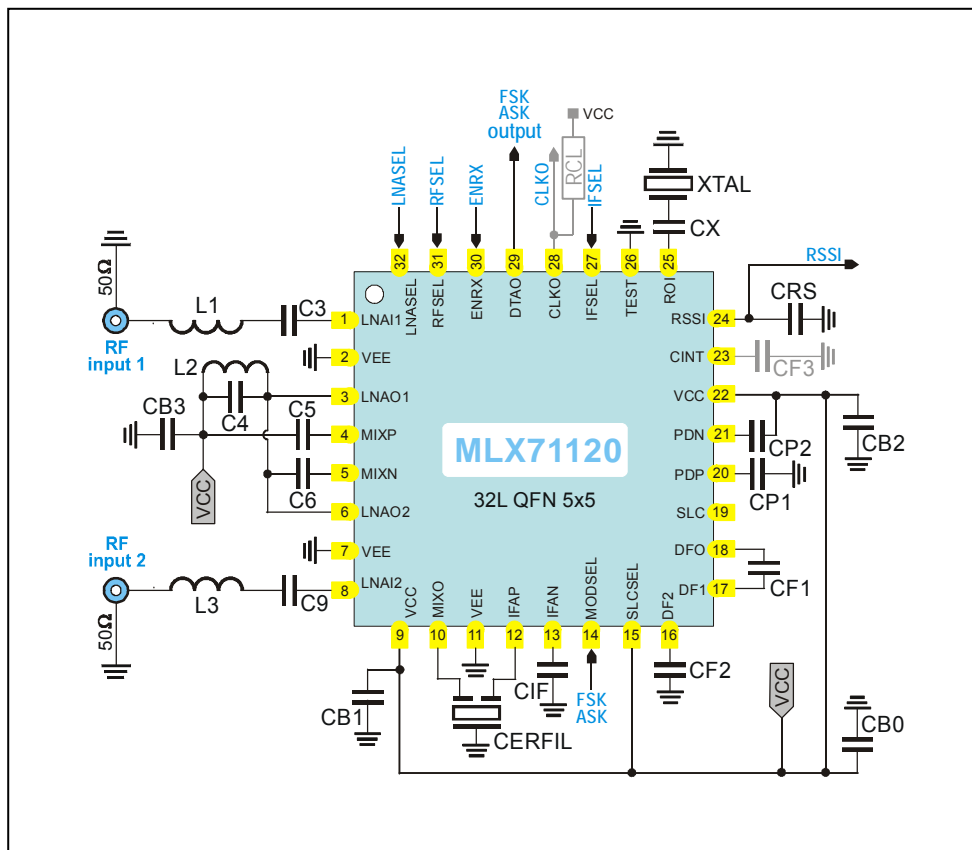

Fig. 10: Dual-channel circuit schematic, peak detectors activated
typical values at $T_A = 23\text{ }^\circ\text{C}$ and $V_{CC} = 3\text{ V}$, all parameters based on test circuits as shown Fig. 10
5.1.1 Test Circuit Component List of Figures 10